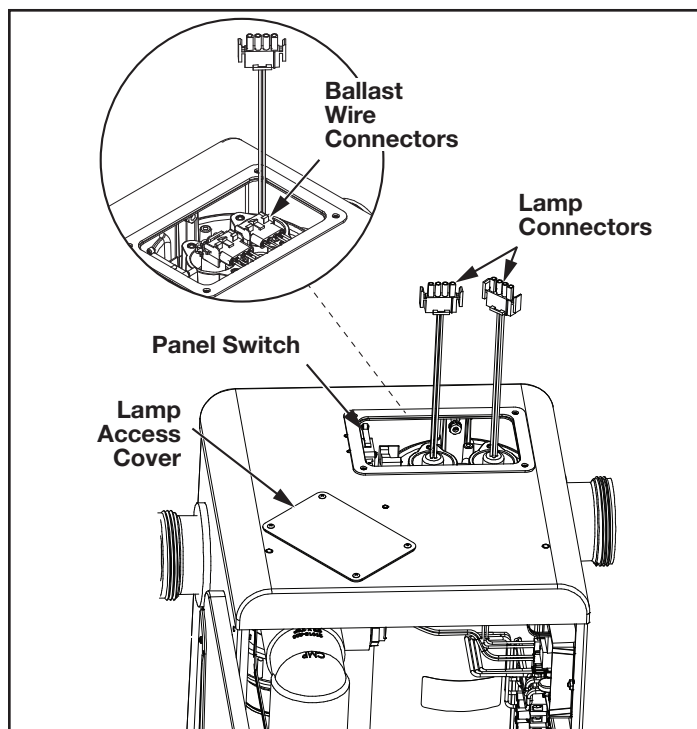

Figure 21. Jandy AOP System UV Reactor Lamp Access
4. Locate the UV lamp access panel on the top of the Jandy AOP. Remove the four (4) screws with a Phillips head screwdriver, and remove the panel. See Figure 21.
10. Reconnect all of the wiring connecting the Jandy AOP system to the ballast. See Figure 21.